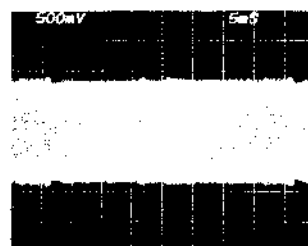

Fig. 7-5
- 4) Ensuring it that the oscilloscope shows such a waveform as shown in Fig. 7-5 and also watching the point